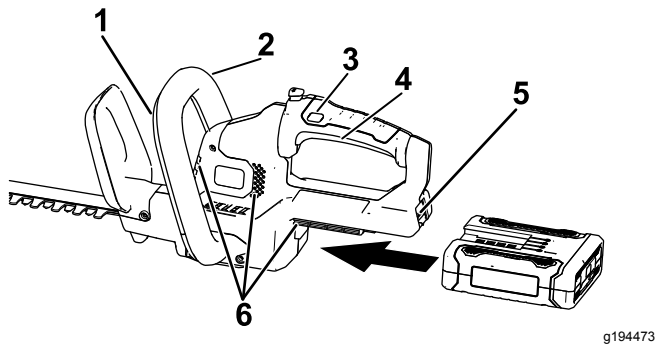

Figure 4
3. Align the cavity of the battery pack with the tongue in the handle housing, grasp the handle, and push the battery pack into the handle until the latch locks into place (Figure 4).
4. Place 1 hand on the trigger handle. Place the other hand on the auxiliary handle (Figure 4).
5. Press the lock switch and then squeeze the trigger switch while engaging the auxiliary-handle switch to turn on the hedge trimmer (Figure 4).
The trimmer stays on as long as the auxiliary-handle switch is engaged and the trigger is squeezed. The lock switch may be released once the hedge trimmer is running (Figure 4).
1. Release the trigger or auxiliary-handle switch (Figure 4).